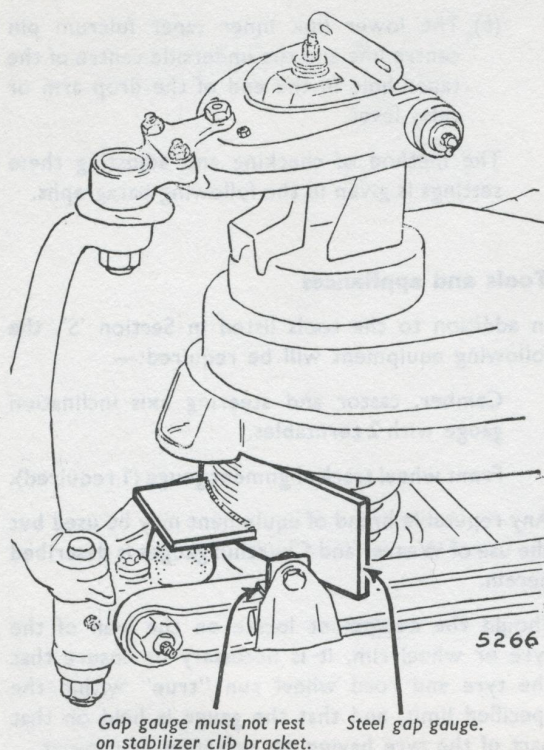
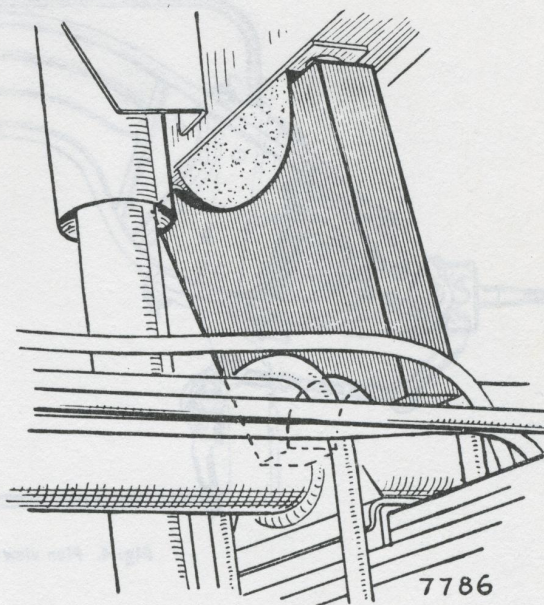

Fig. 2. Front suspension loaded down onto steel gap gauge
Fig. 3. Rear gap gauge in position, ensure that the rear bottom corner is clear of the hydraulic pressure pipes
5. The car is loaded on to four gap gauges by placing weights at the front of the car. The amount required is approximately 300 lb. (136 kg.) evenly distributed on a platform, comprising of a wooden plank supported by two suitably cranked steel bars $\frac{7}{8}$ in. (22 mm.) square inserted into the front jacking sockets. At the front, steel gap gauges are used, see Fig. 2 or 28. At the rear, hardwood gap gauges are used; these are shaped to clear the hydraulic pressure pipes, the bump rubbers and fit round the axle casing, see Fig. 3. Normally the rear end of the car is lifted by hand to enable the rear